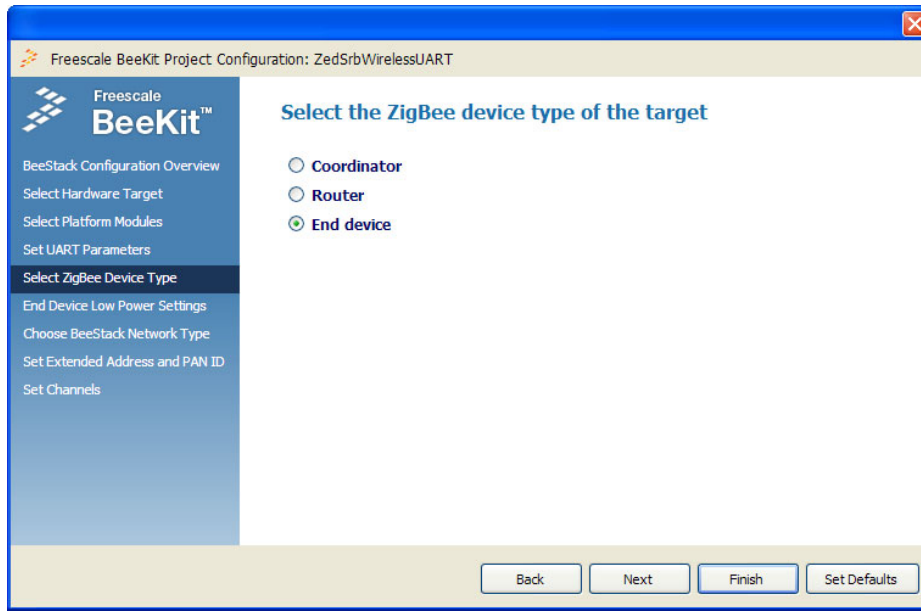

Figure 5-12. Selecting the End Device as the Device Type
3. Continue clicking the Next button until reaching the “Select ZigBee Device Type” window as shown in Figure 5-12. Select the “End device” option and click on the Next button.